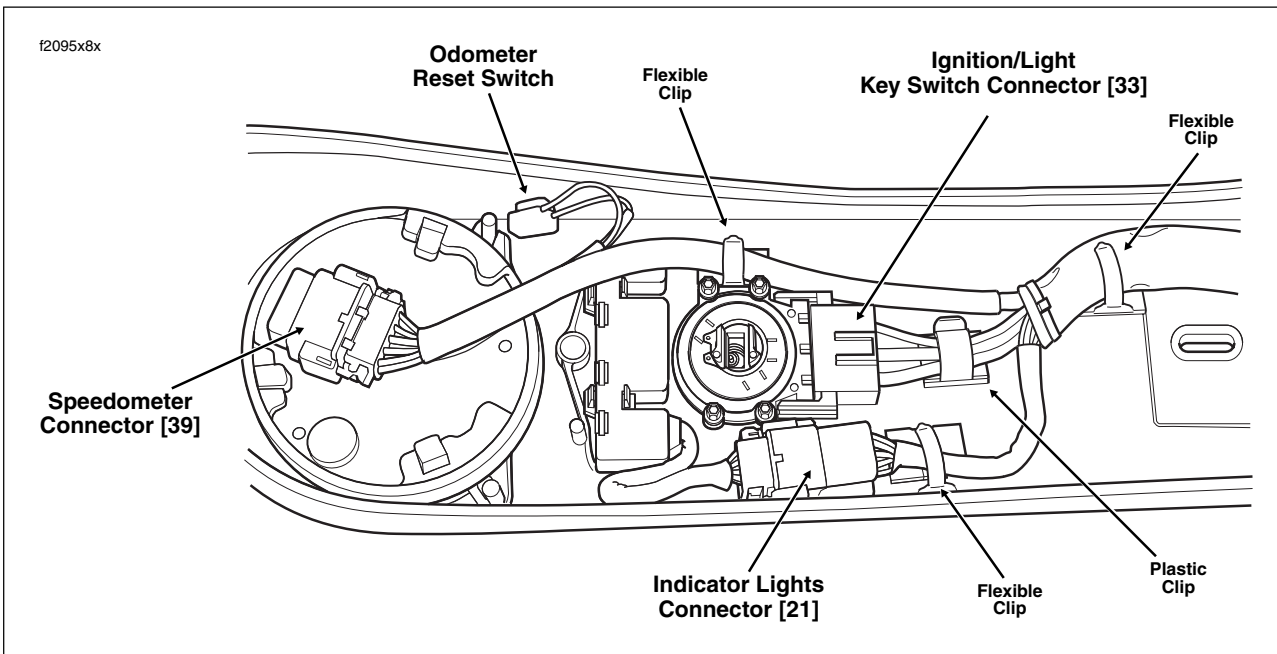

Figure 8-147. Instrument Console Assembly (FLHR/C)
7. See Figure 8-147. Moving to inboard side of instrument console, disconnect main harness as follows: